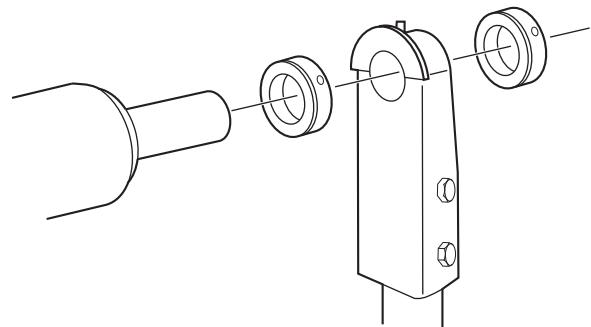

Figure 19
11) See Figure 19. Slide the shaft collar (5) and the rear swing-arm onto the adapter shaft at the rear of the trailer. Re-check the pivot box face for plumb. Place the shaft collar (5) 1/4" from the swing-arm bushing and tighten.